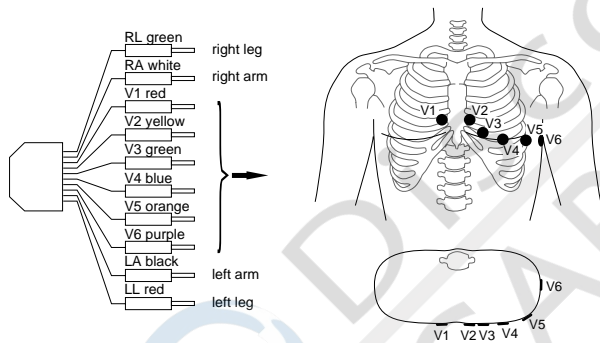

Figure 4-4. Connecting the patient cable
- Connect the 10-lead patient cable as shown in Figure 4-4.